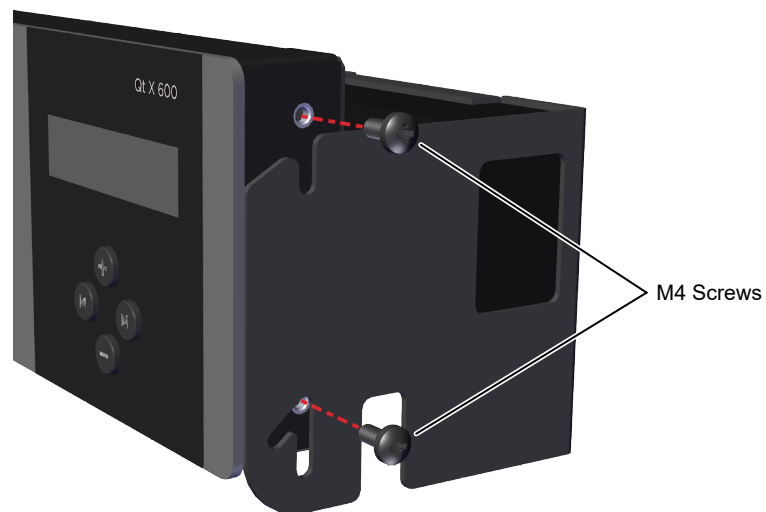

Figure 27. Remove screws and panel from wall mount bracket
1. Remove the wall mount bracket from the controller and reserve the M4 screws to attach the rack mount brackets later (Figure 27).